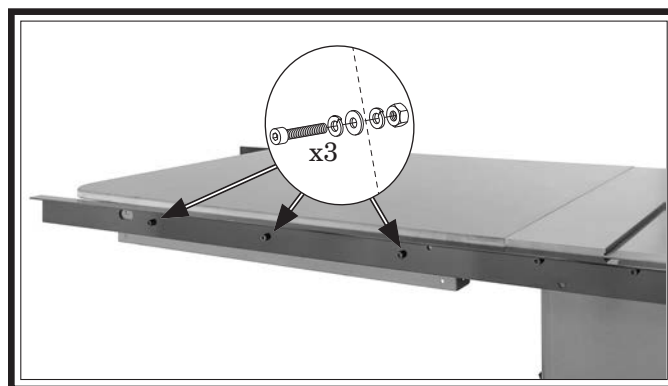

Figure 25. Rear rail fastener locations.
4. Fasten rear rail to extension table with (3) M8-1.25 x 25 cap screws, (6) 8mm lock washers, (3) 8mm flat washers, and (3) M8-1.25 hex nuts as shown in **Figure 25**. Do not fully tighten hex nuts.